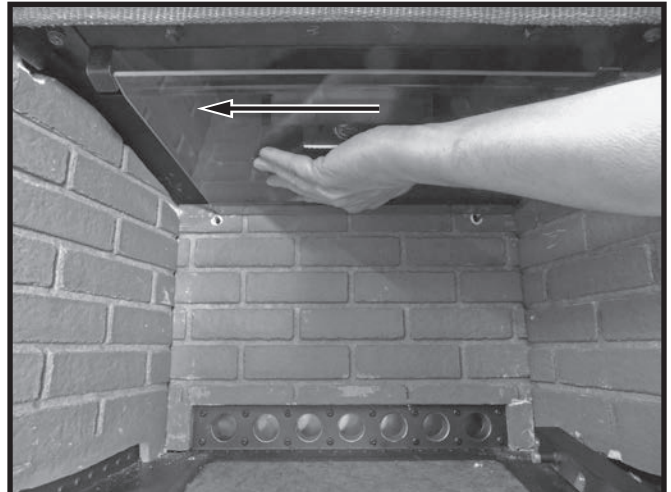

Figure 33: Sliding baffle over to rest on top of supports.
3. Slide the baffle over so that it is supported by all four supports (Figure 33).